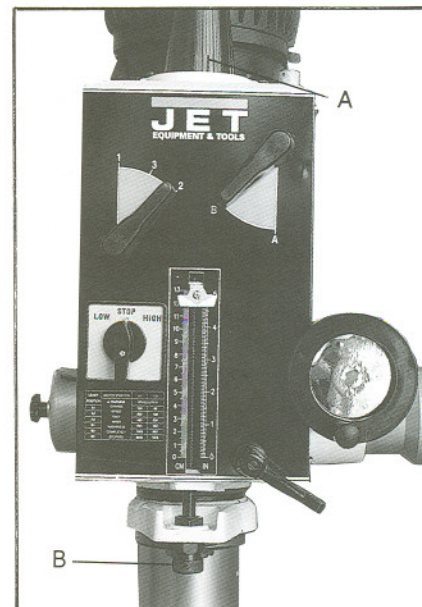

Fig. 11
Caution: The internal depth stop (GHD-20PFT) is used only with the tapping function. Raise the adjusting knob (B, Fig. 11) to the top of the depth stop screw so as not to interfere with power downfeed or manual feeding operations. For tapping, turn switch (B, Fig. 9A) to tapping position, press down the handle. The quill functions when upper limit switch is released. It then reverses automatically after hitting lower limit switch and will not stop until it hits the upper limit switch.
3. Remove the main shaft cover (A, Fig. 11).
1. Turn the adjusting knob (B, Fig. 11) until the correct depth is indicated on the scale on the front of the drill head.
1. Turn the adjusting knob (B, Fig. 11) until full travel is possible. Do not use this scale as a reference when drilling. This depth stop is for tapping only and should not interfere with drilling operations.